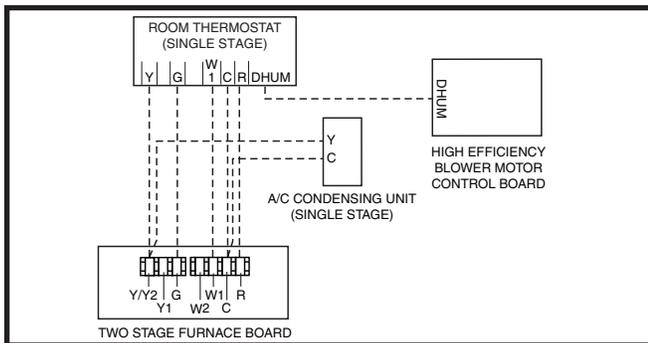

Figure 15. Wiring Configuration 1
- Connect the thermostat's **W** output to the furnace control boards **W1** terminal. This allows the furnace to always run in low output mode. See Figure 15.
The Autostaging feature included on all G7 2-stage furnaces make it possible to use a single stage thermostat and still receive some of the benefits of 2-stage furnace operation. If Autostage is enabled, the furnace will drop to **LOW** fire after initially starting in **HIGH** fire. After a period of time (8 or 12 minutes) the furnace will then stage up to **HIGH** fire, until the heating load is met. See Figure 15 and the Low Voltage Wiring section (page 19).
- ✓ Verify that all needed thermostat wires are securely connected to the correct leads on the terminal strip of the circuit board. See Figures 15 - 17 (page 20).